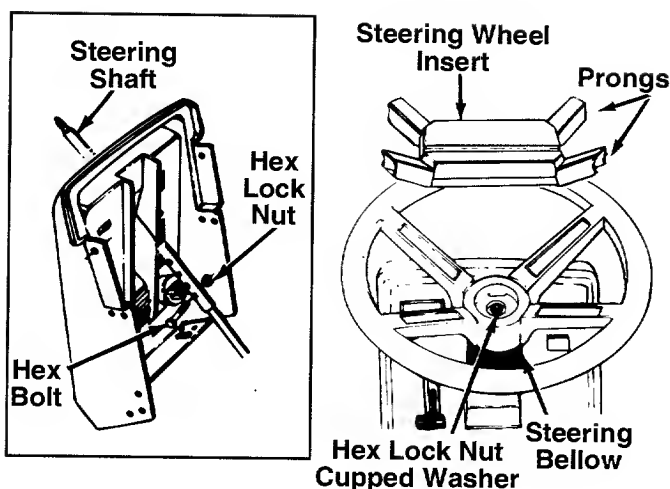

FIGURE 4.
1. There are four height positions for the steering wheel. For shipping purposes, the steering shaft is assembled in the lowest position. Lift the hood of the tractor. Remove the hex bolt and hex lock nut on the steering shaft. Raise the shaft to desired position and secure with hex bolt and hex lock nut. See figure 4.
2. Attach one end of the plastic steering bellow to the steering wheel as shown in figure 4.
5. Place the washer with the cupped side down over the steering shaft. Secure with 5/16" hex lock nut. See figure 4.